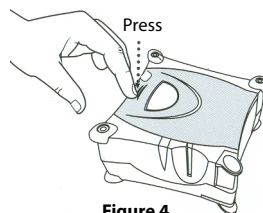

Figure 4
- 1 Press and release the label cassette cover to open the label compartment. See Figure 4.